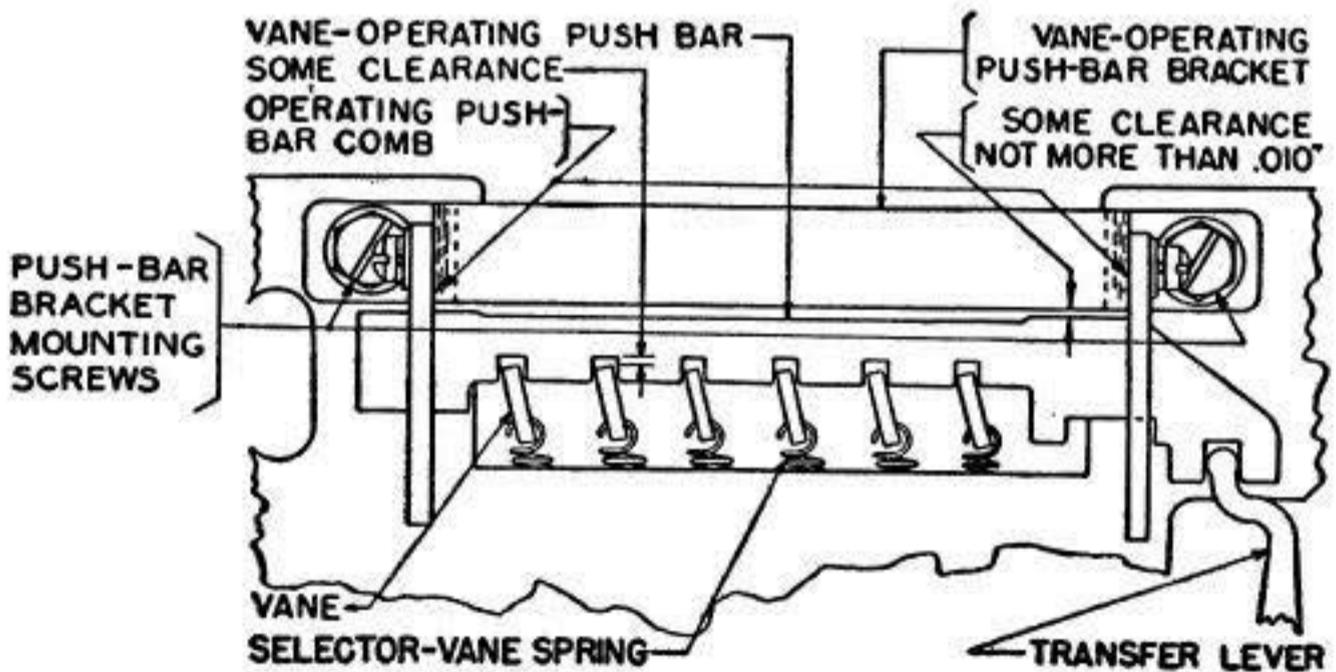

Fig 5
3.06 **Selector-Vane-Operating Pushbar Bracket:** The vanes should have full travel between their stops and there should be some clearance between the top of the vanes and the top of the slots in the vane-operating pushbars. **Fig 5**
3.07 **Front- and Rear-Selector-Vane-Operating Pushbar Combs:** The selector-vane-operating pushbars should operate without bind, be in alignment with their selector-transfer levers and there should be some clearance, not more than .010", between the bottom of the selector-vane-operating pushbar bracket and the top surface of the selector-vane-operating pushbars. Check both front and rear. **Fig 5**
3.08 **Selector-Vane Spring:** It should require Min 1/4 oz, Max 1 oz to start the operating pushbar moving. **Fig 5**